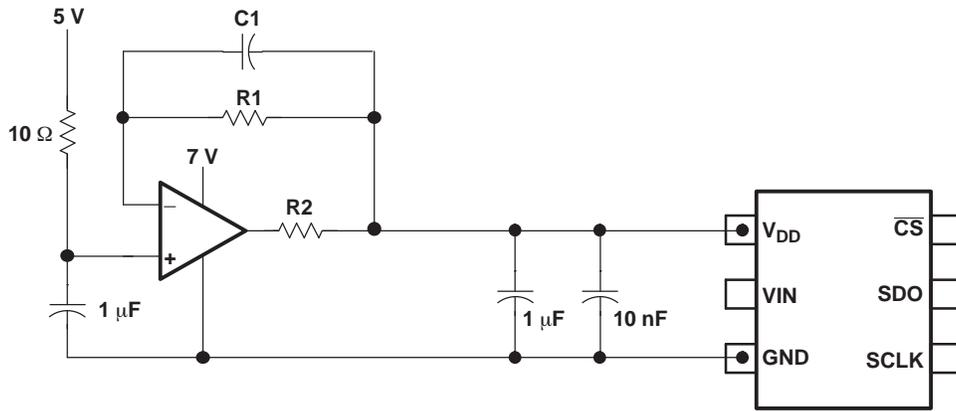

图 24. Buffering with the OPA735
- A low-pass filtered version of the system supply followed by a buffer such as the zero-drift OPA735 can also be used in cases where the system power supply is noisy. Care should be taken to ensure that the voltage at the V_{DD} input does not exceed 7 V (especially during power up) to avoid damage to the converter. This can be done easily using single supply CMOS amplifiers like the OPA735. 图 24 shows one possible application circuit.